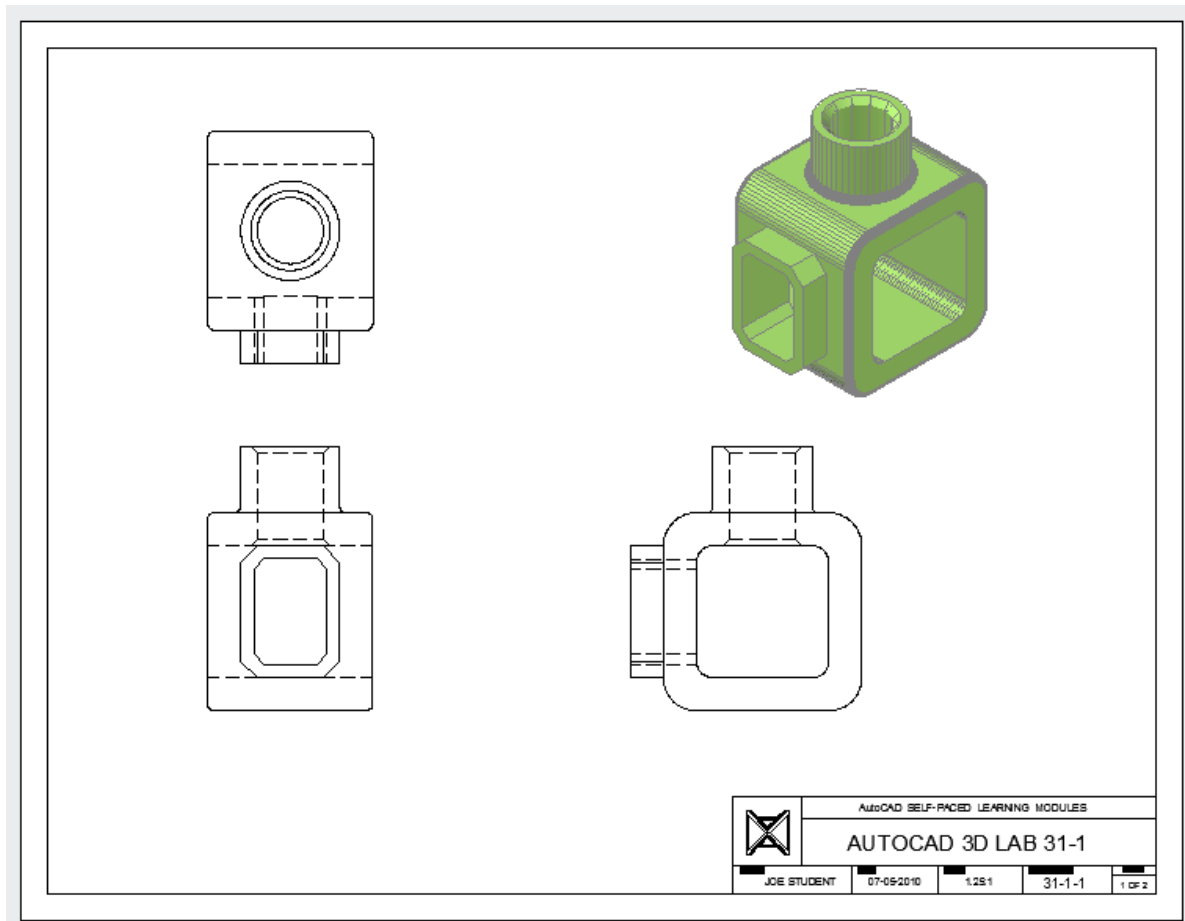

Figure Step 8
Step 8 Set the current space to Paper and fill in the titleblock. (Figure Step 8)